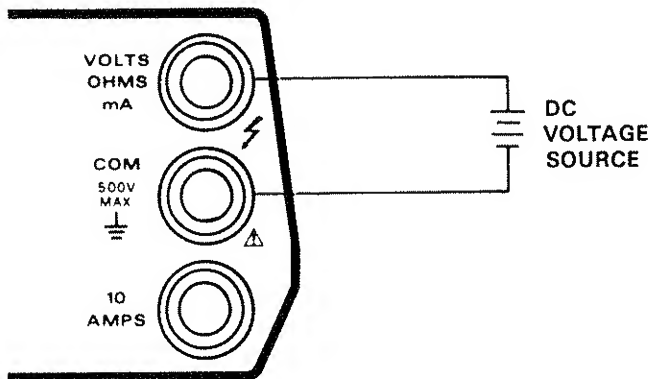

Figure 2-2. DC Voltage Measurements
4. Connect the test leads to the source as shown in Figure 2-2. If the positive source terminal is connected to the COM terminal of the instrument, the display will show a negative value. If the negative source terminal is connected to the COM terminal, the display will show a positive value.